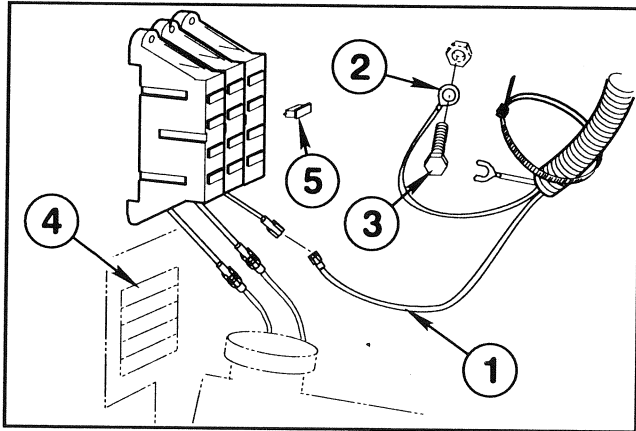

FIG. 14
13. Install (5) Fuse Decals. Connect power wire to available Vehicle Fuse Block lead, and connect ground wire to ground bolt as shown in FIG. 14